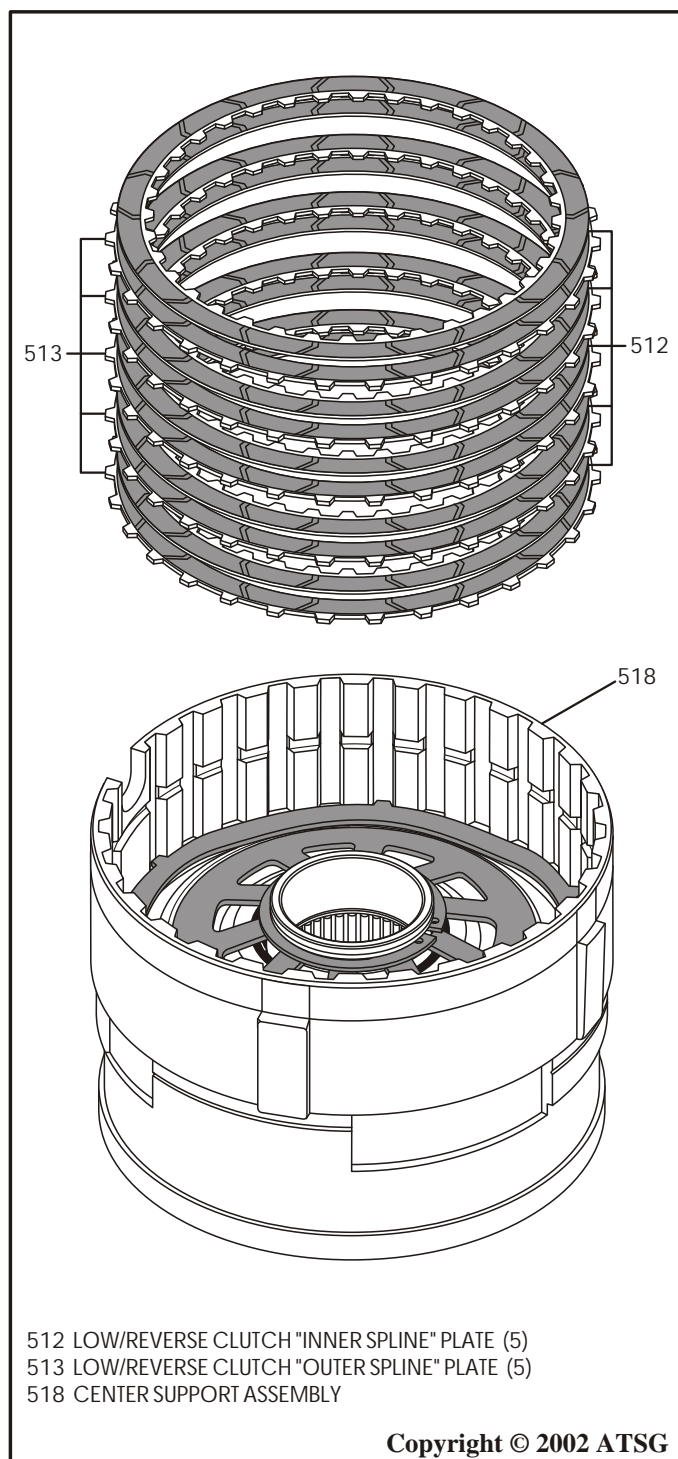

Figure 136
11. Install low/reverse clutch "single sided" plates beginning with an outside spline plate first and alternating with inside spline plates until you have installed 5 of each (See Figure 136).
**Note:** *Lined side must be installed facing up, as shown in Figure 136. Clutch plate amounts may vary by model.*